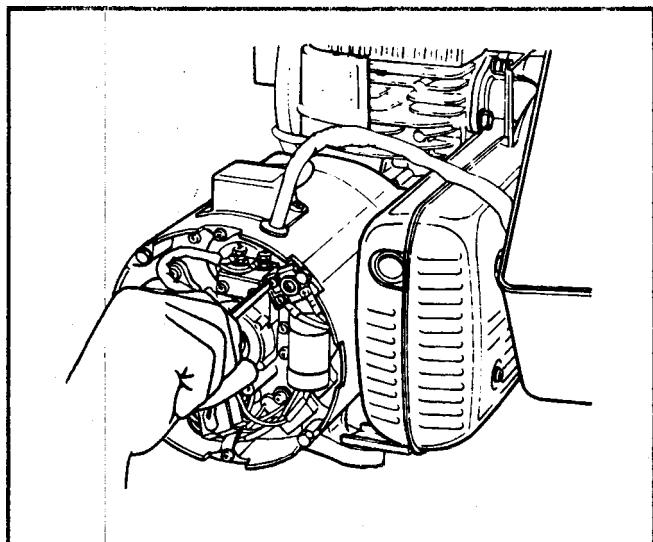

Figure 141
4. Disconnect and remove the AC output wires at the terminal block. See Figure 141.